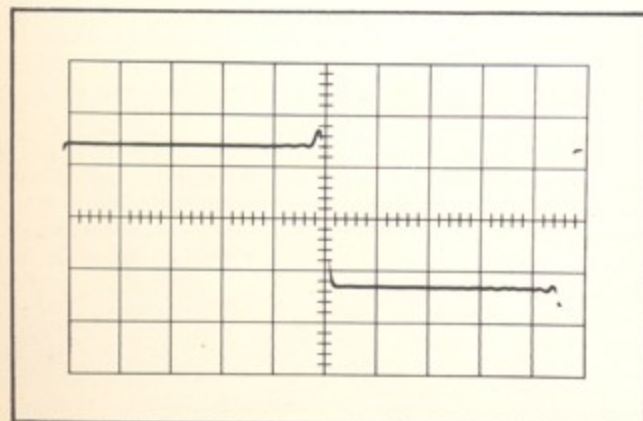

Fig. 3-5. Illustrating spurious ringing (damped oscillation) that might occur as a result of the use of a probe that is unsuited to the oscilloscope.
b. Use a probe of a type specified for the oscilloscope. For example, if you are using an oscilloscope whose vertical-deflection-system bandwidth greatly exceeds 10 megacycles, and if you use a probe intended for oscilloscopes having a smaller vertical-deflection-system bandwidth, you might observe a spurious "ringing" or damped oscillation along the top of the displayed square wave (Fig. 3-5). This spurious ringing might lead you to suspect a fault in the square-wave generator, in the oscilloscope, or in the equipment you are testing, whereas the actual difficulty lies in the use of an improper probe.